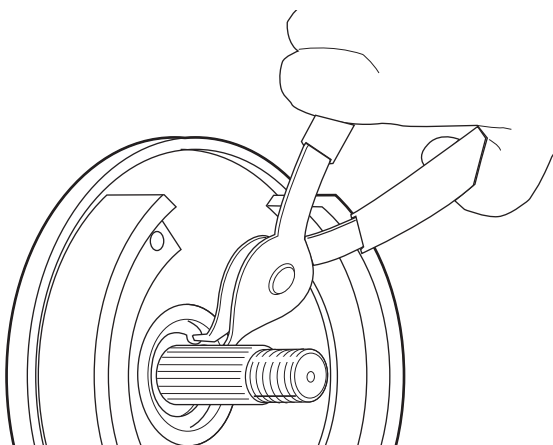

Fig. 3 Removing/Installing Outer Snap Ring
1. Remove the outer snap ring from the axle tube (Ref. Fig. 3).